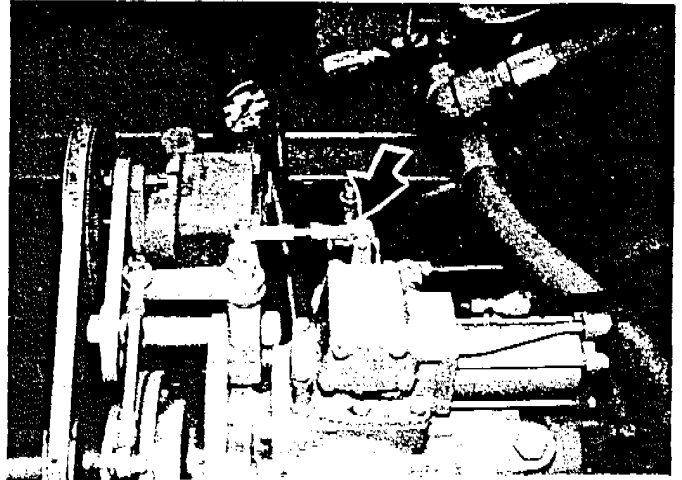

Fig. 20
- Remove the rear trailer deck lid and inspect the hydraulic unit. CAUTION: Be sure the drive pump is in neutral. (Fig. 20)